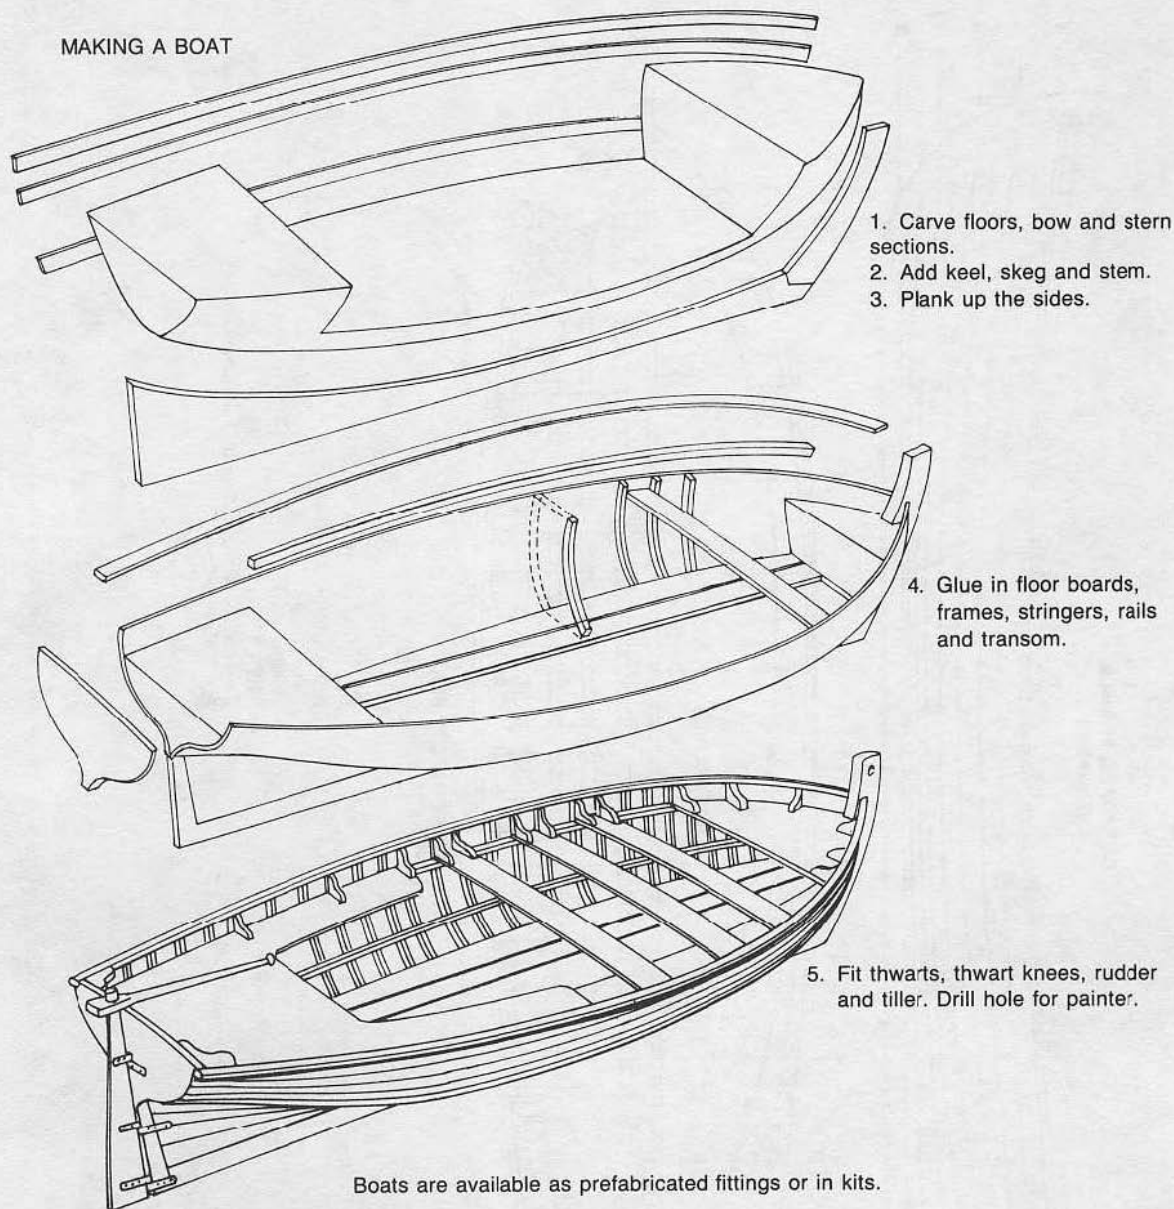

Fig. 11-20. A method of construction of a ship's boat (Courtesy of A. Richard Mansir).
A. Richard Mansir, in his book *Art of Ship Modeling*, introduces another method (FIG. 11-20). It is a combination of the built-up method and the solid-hull unit. This application is also used by the ship modeler who combines the solid-hull and plank-on-frame methods in building a pseudo-Admiralty type of model. This method was not discussed previously. Use your imagination to determine how you could use it to build a ship model, as well as a ship's boat.